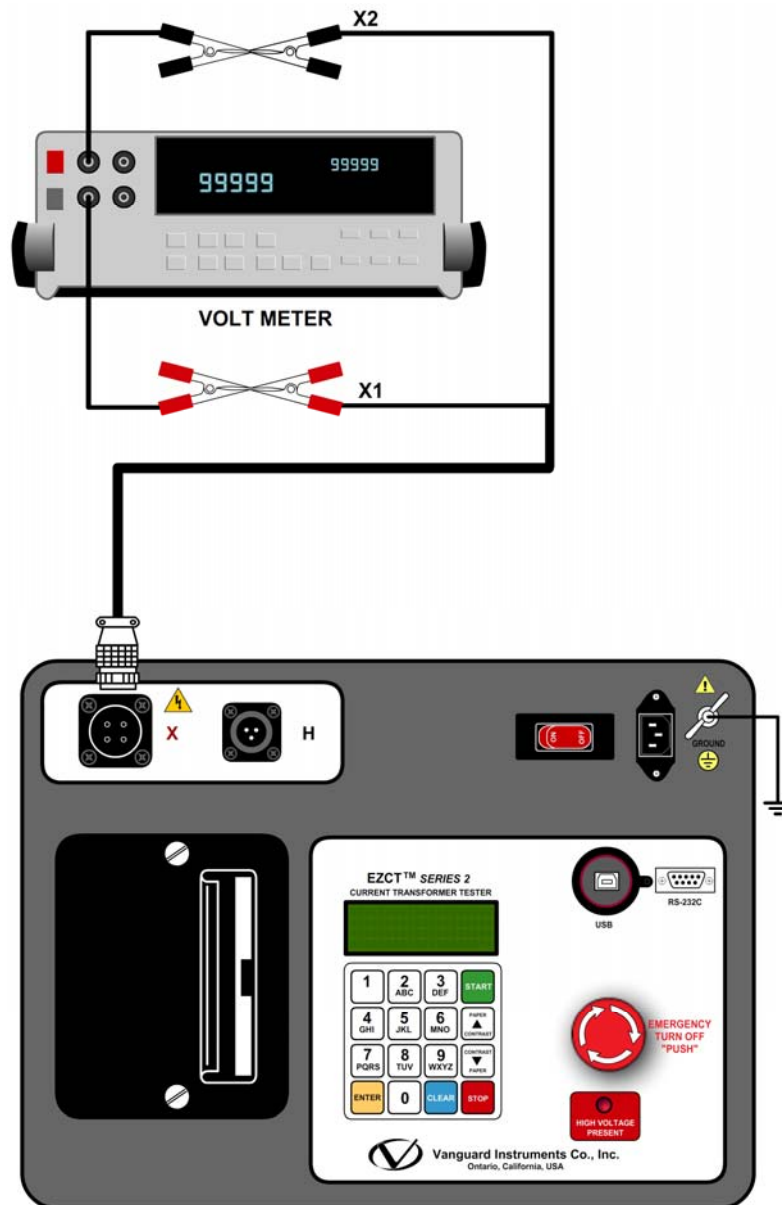

Figure 13. EZCT S2  $V_x$  Verification Test Connections
- Connect the X cables to an RMS volt meter as shown in Figure 13.